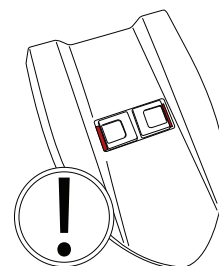

Fig.20
- Apply downward pressure to the lid, sufficient to make certain that the two sliding release catches spring outwards and engage with the top of the dirty water tank (Fig.20).
The lid is correctly installed when the RED background in the seats of the two catches can NOT be seen (fig. 20).